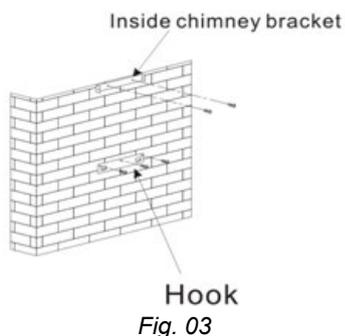

Fig. 03
2. Install the hook on a suitable place once the installation height is fixed, and keep it in line. The fixed position of the inside chimney bracket is the place of chimney (Fig. 03).